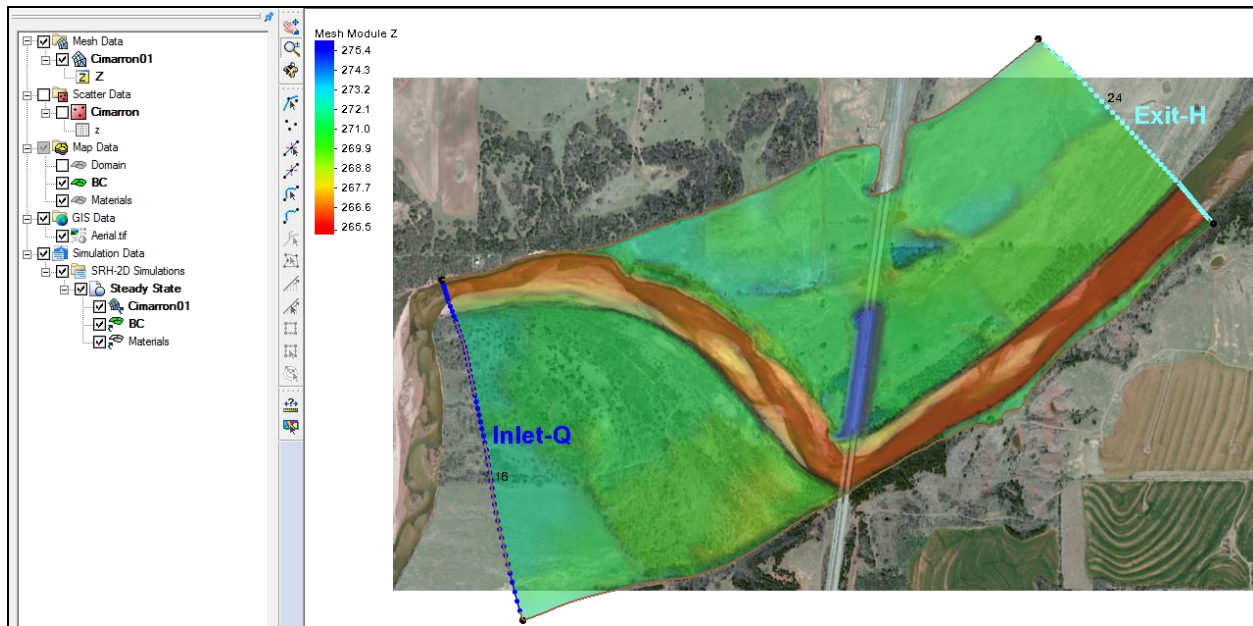

Figure 1 Initial project
The project should appear similar to Figure 1.
1. **Zoom**  in near the downstream boundary on the right side of the model (labeled “Exit-H” in Figure 1).